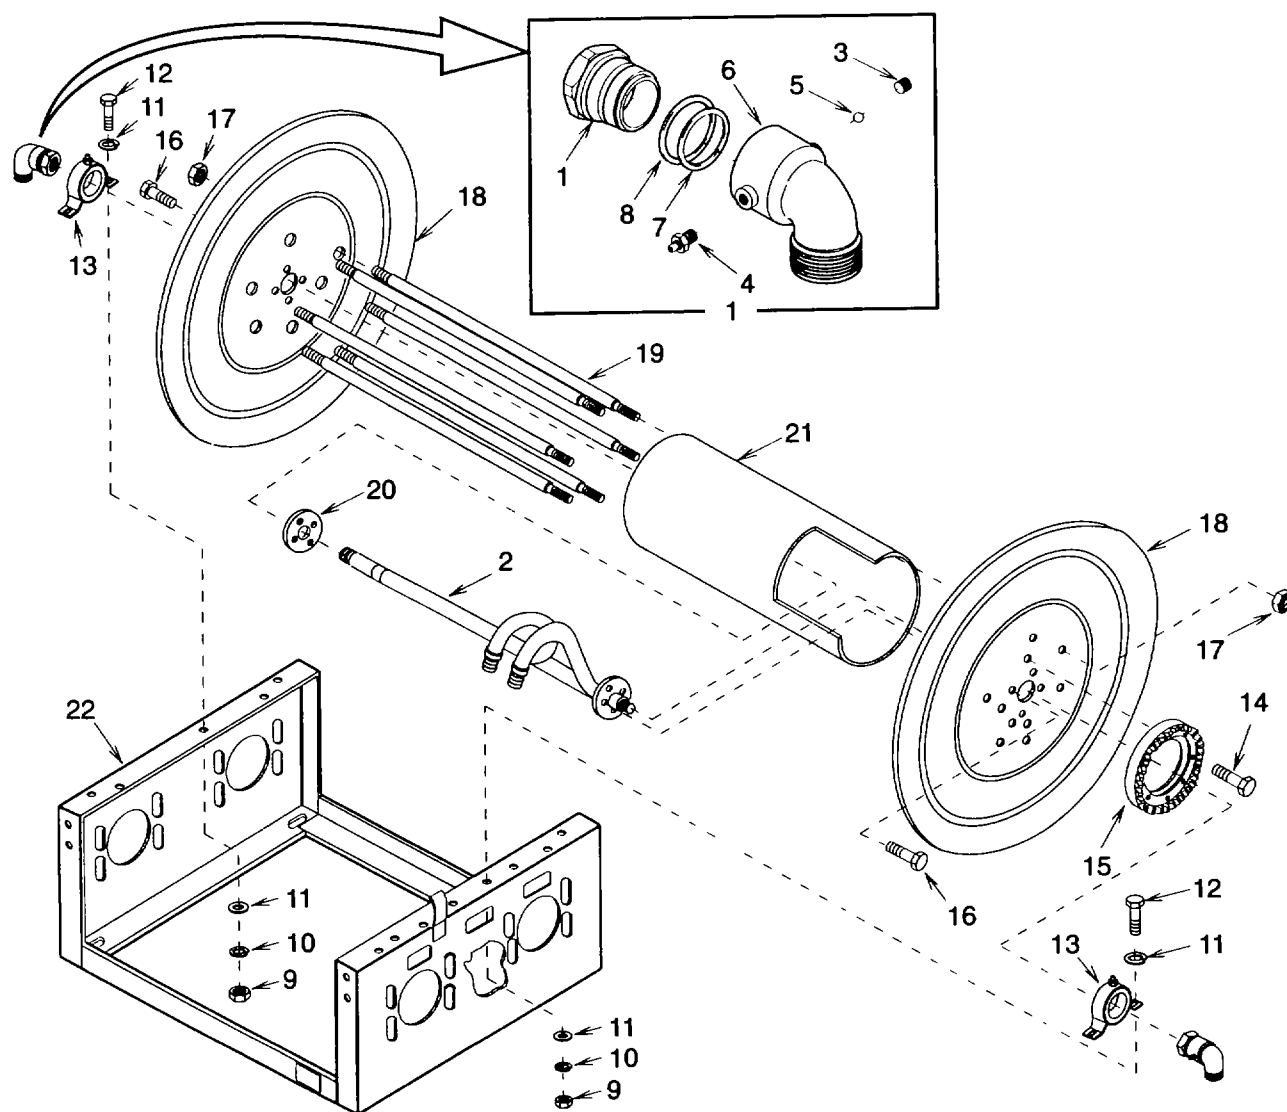

Figure 4-16. Drum Assembly
b. Disassembly (See figure 4-16 )
- (1) Disconnect two union tailpieces (1) from distributor (2).
- (2) Remove setscrew (3), lubrication fitting (4), and 30 ball bearings (5).
- (3) Carefully separate elbow (6) and union tailpiece (1).
- (4) Remove preformed packing (7) and (8). Discard preformed packing.
- (5) Remove four nuts (9), lock washers (10), eight flat washers (11), and four screws (12). Using sand paper, carefully remove paint from distributor (2) and slip two bearings (13) off. Discard lock washers.
- (6) Remove eight screws (14), and gear (15).
- (7) Remove eight screws (16), 12 lock nuts (17), two discs (18), six spacers (19), distributor (2) flange (20), and spool (21). Discard lock nuts.
d. Assembly (See figure 4-16.)
- (1) Install flange (20) and four screws (16) onto disc (18)
- (2) Install six spacers (19) and nuts (17) onto disc (18).
- (3) Slide spool (21) over spacers (19). Notched end on spool to face away from disc (18)
- (4) Carefully install distributor (2) through spool (21) and into flange (20).
- (5) Install second disc (18) and six nuts (17) onto spacers (19).
- (6) Install four screws (16).
- (7) Install gear (15) and eight screws (14) onto disc (18).
- (8) Carefully slide bearings (13) onto distributor (2) ends. Place spool (21) assembly onto frame (22) and align bearing mounting holes.
- (9) Install four screws (12), eight flat washers (11), four new lock washers (10), and nuts (9)
- (10) Lubricate new preformed packing (7) and (8) with grease and install onto tailpiece (1).